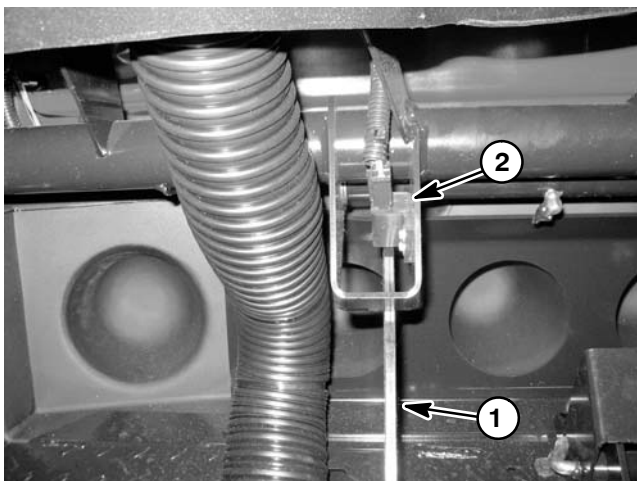

Figure 15
The brake switch is a normally closed switch that is attached to the frame under the dash (Fig. 15). When the brakes are not applied, the brake pedal presses the brake switch plunger to open the switch. When the brakes are applied, the pedal moves away from the brake switch plunger to allow the switch to be in the normally closed state. This will allow a current path to energize the start enable relay and also to illuminate the stop lights.
1. Park vehicle on a level surface, shut engine off, remove key from ignition switch and apply parking brake. Locate the brake switch (Fig. 15).
4. With the use of a multimeter (ohms setting), test for continuity across the two (2) switch terminals. There **should be** continuity (zero ohms) when the brake pedal is depressed (switch plunger extended). There **should not be** continuity (infinite ohms) when the brake pedal is released (switch plunger depressed).